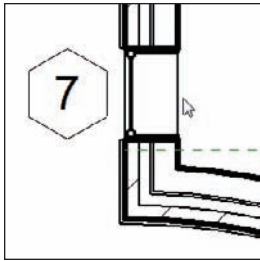

FIGURE 4.19 Adding the window to be arrayed
3. Place the window approximately where it is shown in Figure 4.19. You will have to move the window in alignment with the reference plane.